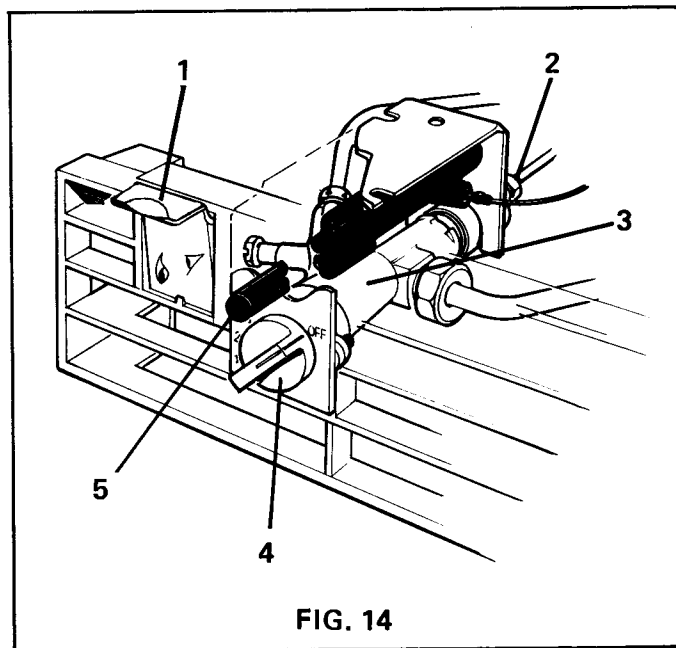

FIG. 14
16. STARTING THE REFRIGERATOR (see fig.14)
The gas control knob (4, fig.14) has four positions, marked 'Off', and 3, 2 and 1, representing three sizes of flame — Maximum, Medium and Minimum. The amount of cooling produced in the refrigerator will depend on the size of flame used.
When operating on gas, ice will be made more quickly if the control knob (4, fig.14) is temporarily turned to the Maximum flame position, (No.3).
7. Remove screw (4) and carefully ease the burner box assembly away from bottom of boiler. Examine and clean all traces of soot and other deposits from the burner box, making sure the aeration holes in the bottom are perfectly clear.
9. Reassemble in the reverse order, making certain that the burner barrel is replaced with the slots in the closed end facing the boiler tube. See that gas unions are tight, but not overtight. The small union (2, fig.14) connecting thermocouple to flame failure device must be done up firmly, but do not overtighten.
10. Replace the flue baffle in the central tube of the boiler and re-install refrigerator, (see "Checking for Gas Leaks", item 26). Light burner and test.